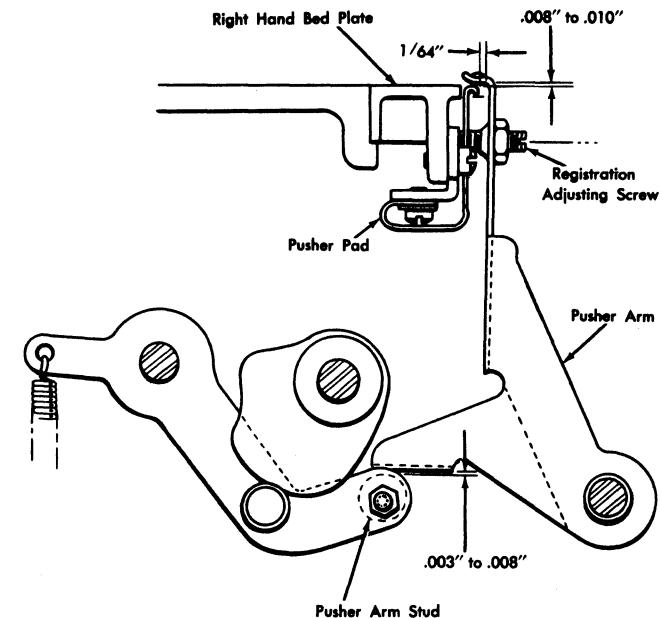

Figure 26. Detail Card Registration
ADJUSTMENT (FIGURE 26)
1. Adjust pusher pad vertically for .008-inch to .010-inch clearance from top of pad to pusher arm in the registered position (against its adjusting screw). Maintain $\frac{1}{16}$ -inch clearance from side of pad to the arm. At same time, check for at least .008-inch clearance between top of right bed plate and pusher arm (in position shown in Figure 26). If there is not .008-inch clearance, bed plate may be warped.